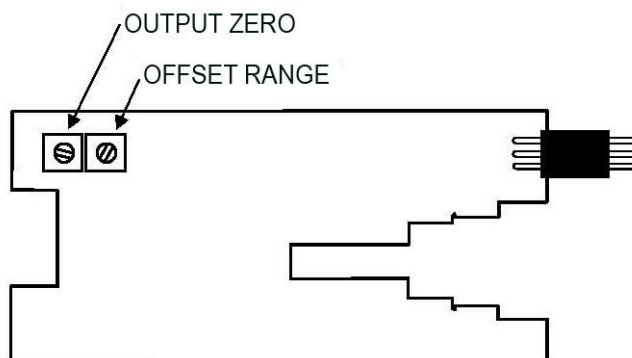

Figure 8 Adjustment Locations S/N 1000 and higher
6. Adjust **OUTPUT ZERO** on the board until the DMM reads $0\text{ V} \pm 100\text{ }\mu\text{V}$. Refer to Figure 8 Adjustment Locations S/N 1000 and higher for adjustment location.